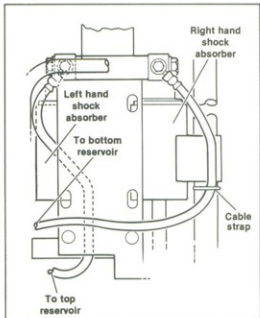

Figure 2-84. Hose Routing Shock Absorber & Reservoir
1. Place the reservoir (3) in clamp (4). Position clamp (4) with reservoirs (3) against the swing axis tube with the holes aligned. Be sure the clamp half with the threaded holes is positioned at the outboard side from the swing axis tube (15). Route the hoses as shown in Figure 2-84.
2. Insert bolts (6) through swing axis tube (15) and thread into the tapped holes in the outer bracket. Tighten bolts (6) thoroughly.
3. Place shock absorber (10) with the dead end in alignment with the bracket at the center of the frame.
4. Coat the thread surface of screw (11) with Loctite LOCK 'N SEAL Adhesive. Place washer (12) on screw (11). Insert screw (11) through the shock absorber dead end and thread into the bracket. Tighten screw (11) to 115-130 ft-lbs torque.
5. Pivot the swing arm in position so that the rod end of shock absorber (10) is in alignment with the threaded bar at the lower front end of the swing arm.
6. Coat the thread surface of screw (11) with Loctite LOCK 'N SEAL Adhesive. Place washer (12) on screw (11). Insert screw (11) through the shock absorber rod end and thread into the tapped end of the threaded bar. Tighten screw (11) to 115-130 ft-lbs torque.